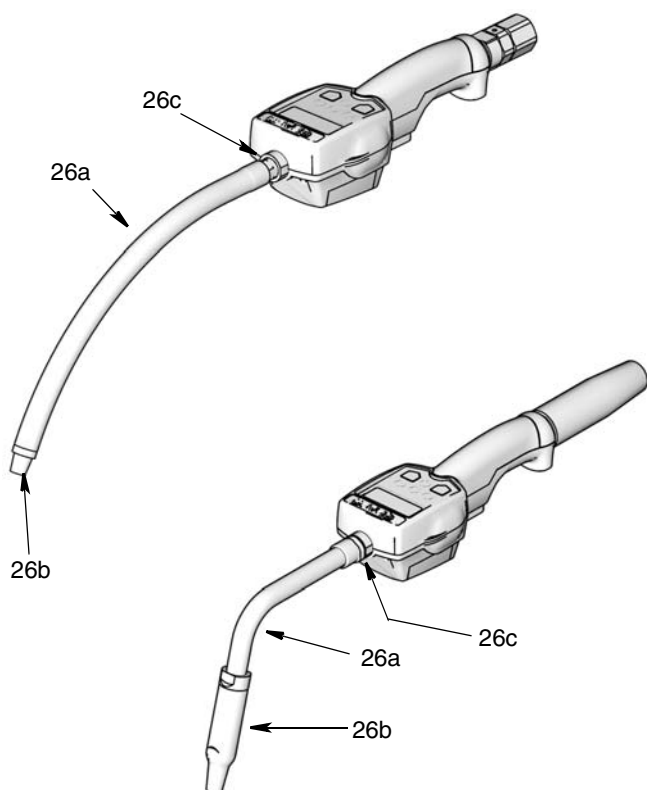

FIG. 7
2. Thread extension fitting (26c) into meter outlet at least three full turns. (FIG. 7).